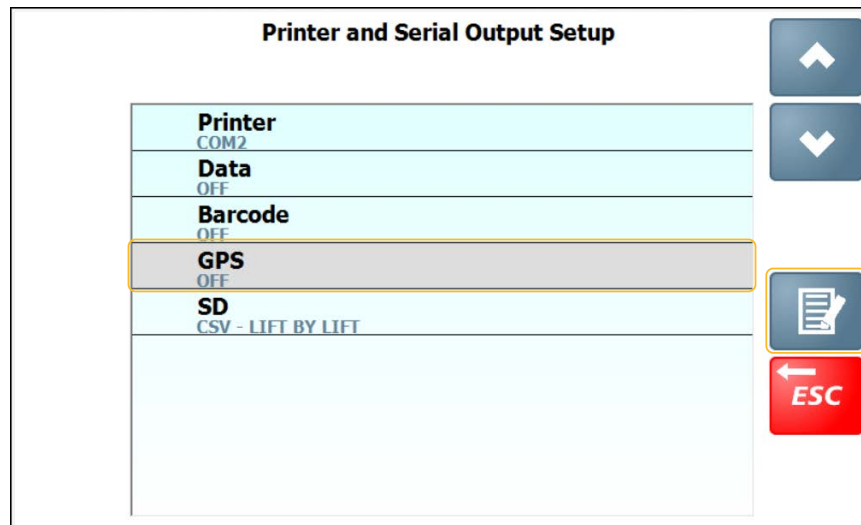

Figure 2-3: Load Weighing Display Printer and Serial Output Setup
- a. Select **GPS** on the **Printer and Serial Output Setup** screen (Figure 2-3 on page 2-2).